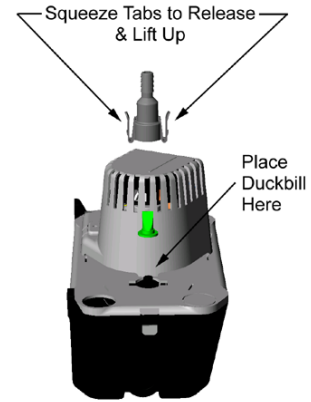

Figure 8
2. Place the pump on a flat surface. Squeeze the tabs on either side on the check valve to release it. The check valve contains a small duckbill. Be careful not to lose it when pulling of the valve. (Figure 8)